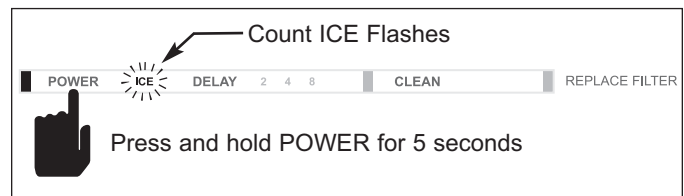
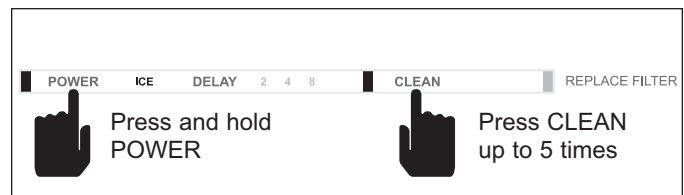

Figure 4-18. Check for Additional Finish Time
Figure 4-19. Adjust Finish Time / Freeze Cycle
**To check for additional finish time (See Figure 4-18):**
1. Press and hold the POWER button for five (5) seconds.
**To adjusting finishing time (See Figure 4-19):**
3. Adjust in one (1) minute increments and allow the ice machine to run several freeze/harvest cycles, then inspect the ice cubes. If a heavier cube weight is desired add another minute of freeze time by repeating the process.
**NOTE:** Five minutes is the maximum additional finish time that can be added. Pressing the CLEAN button 6 times will reset the finishing time to zero (0) additional minutes.